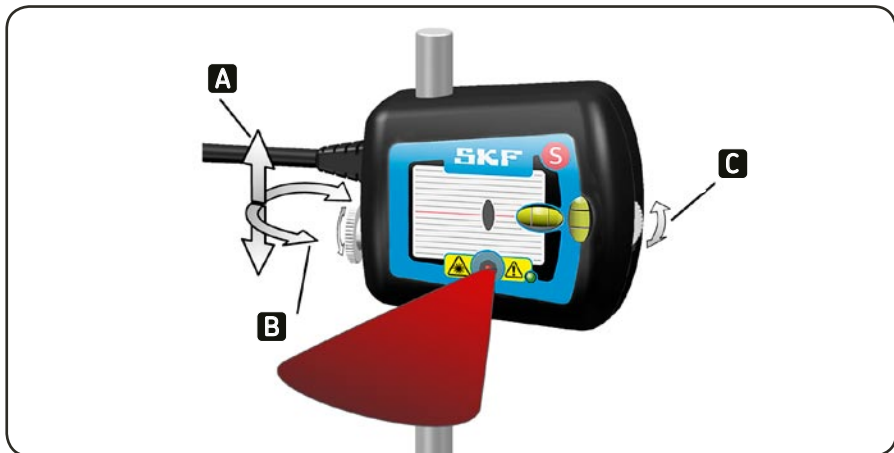

Fig. 12. Adjustment mechanism
- c) For coarse adjustment release the measuring unit by unlocking the knob on the side of the unit (fig. 12). This allows the measuring unit to slide up and down the rod at the same time as it can swivel freely. For the fine adjustment in height use the adjustment wheels on the measuring units.